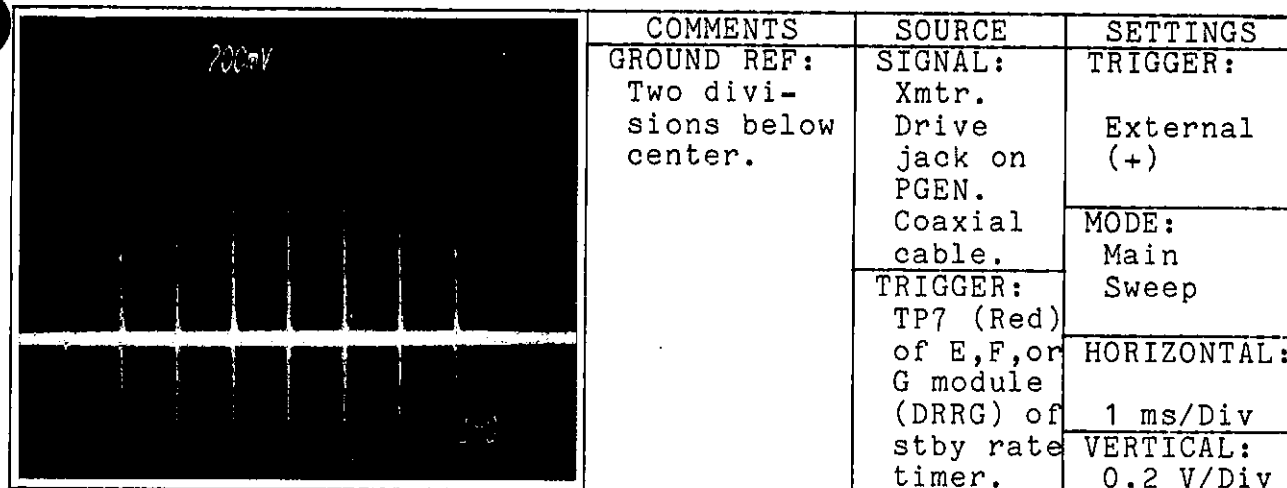
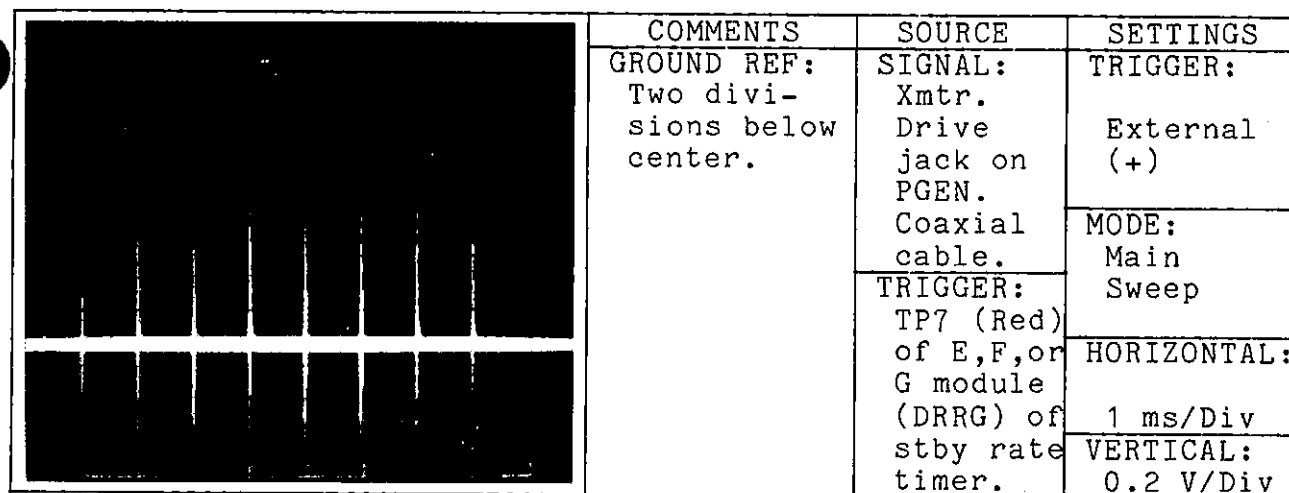

Figure 2.21. Proper Phase Code Amplitude Balance
Figure 2.22. Improper Phase Code Amplitude Balance
(1) Triggering: Trigger the oscilloscope from the red test point of a DRRG board in the standby timer. This trigger is moved by inserting Local Phase Adjustments (LPAs) into the standby timer. Write down each LPA, as it is inserted, for easy recovery, should it become necessary to switch timers during the measurements. Also, once the LPA necessary to find the 30-usec zero crossing is found, it is a fixed value and can be used for future measurements.
(2) Oscilloscope sweep mode: Never use delayed sweep when measuring phase jitter, as it introduces some jitter. 50 nsec per division is desired to obtain accurate jitter measurements. Use delayed sweep only when determining the LPA necessary to obtain the 30-usec zero crossing.
(3) Obtaining the 30-usec zero crossing: Observe the desired pulse at any sweep time that will display only that pulse at the left side of the display (trigger with TP7 (Red) of DRRG module). Expand the sweep and locate the 30-usec zero crossing. Ensure that the oscilloscope trace is centered on a major horizontal division. Alternately insert LPAs in the standby timer and expand the sweep time to keep the 30-usec zero crossing in the left center of the display. As the display time decreases, reduce the volts per division scale to increase the slope of the waveform. Intensity and focus need to be adjusted accordingly. Upon reaching 50 nsec per division of sweep, center the zero crossing (it is a vertical line) on the display and record the total LPA insertion. Inserting LPAs in 5 usec increments moves the start of the pulse. Inserting LPAs in 1000 usec increments displays the 30-usec zero crossing of the adjacent pulses.
(4) Figures 2.21 and 2.22 show proper and improper phase code balance, respectively. Figure 2.22 is observed when the PSYN module is not properly adjusted (if this occurs, return the module in accordance with E/GICP instructions).